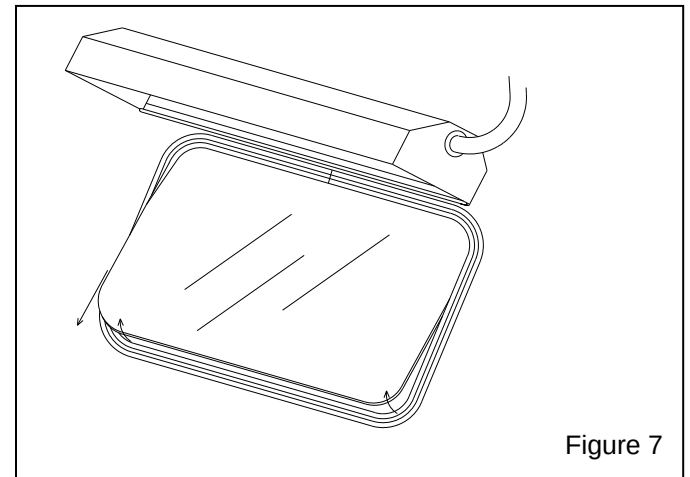

Figure 7
6.3.3 Place an arm into a glove, and push the bottom edge of the window out of the molding, as shown in Figure 7, while supporting the top of the window with the other hand.